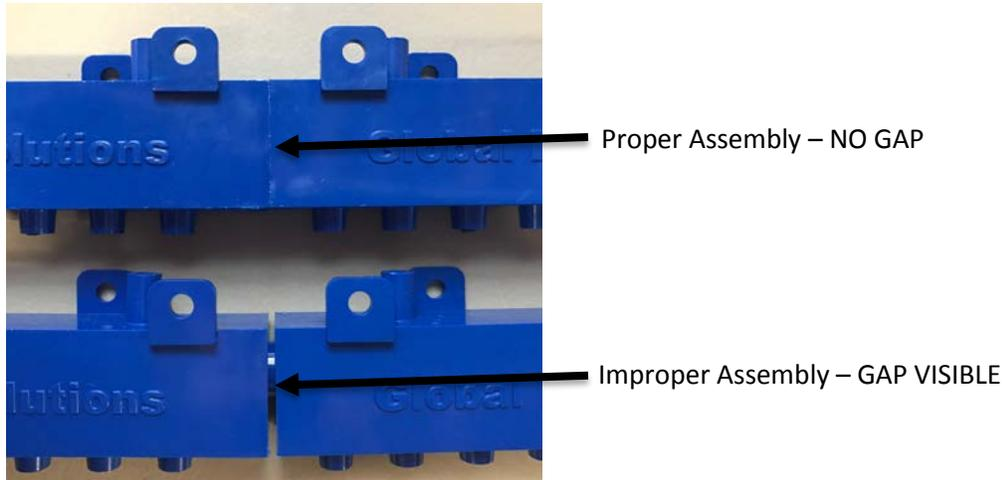

Figure 1
1. Once the location has been determined, assemble the modular sections by inserting the male thread into the female receiver of the first modular section already attached to the power entry cable and tighten until the modular housings are securely butted to each other. See Figure 1 below for appearance of correct assembly. Please note, it normally takes 3-4 complete revolutions to assemble properly. Continue this process until they are all assembled to the desired length.